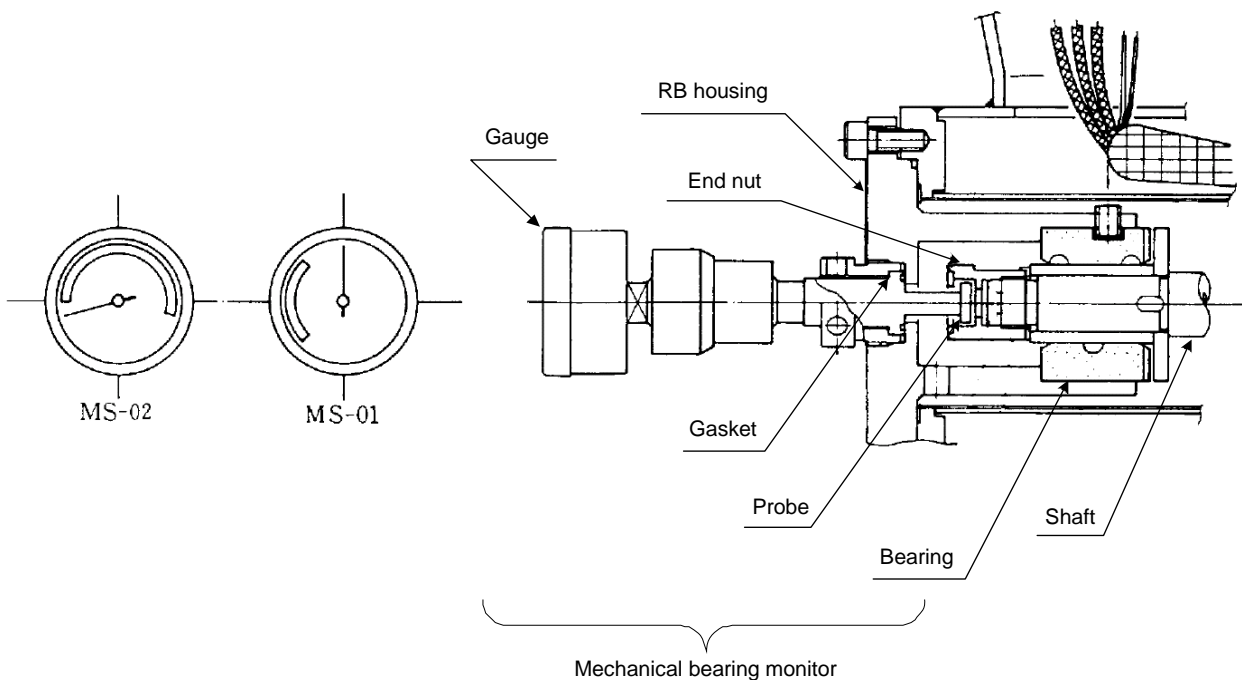

Fig. 3-2 Mechanical Bearing Monitor
(1) Structure and Principles of Operation
The mechanical bearing monitor (M Monitor) is a kind of gas-filled pressure gauge. The M Monitor is mounted on the rear bearing (RB) housing and its probe is inserted into the end nut of the rotating shaft as shown in Fig. 3-2. When bearing wear exceeds the predetermined limit, the probe strikes the inner wall of the end nut and breaks, thus changing the pressure and indicating an abnormal state. The MS-01 is filled with argon gas to maintain a certain pressure. When the probe is broken, the pressure of the argon gas is released, thus reducing the pressure. Therefore, any drop in pressure results in indication of an abnormal state. The MS-02 is maintained at atmospheric pressure. When the probe is broken, the pressure increases as the liquid enters from the pump. Therefore, any increase in pressure results in indication of an abnormal state.